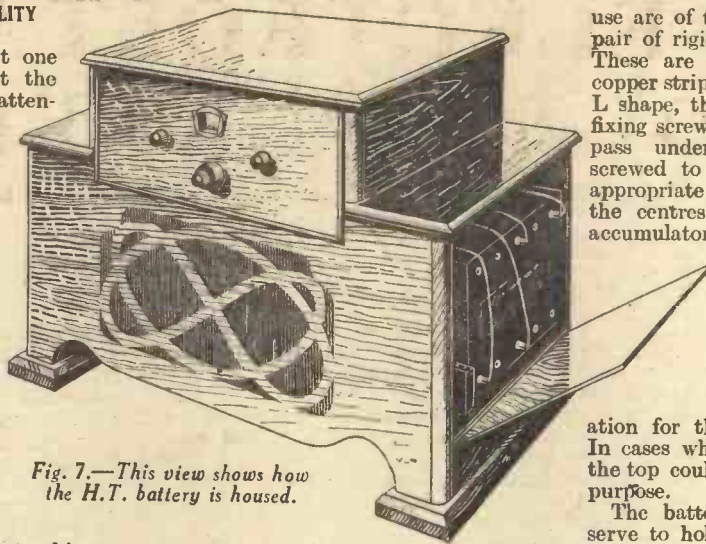
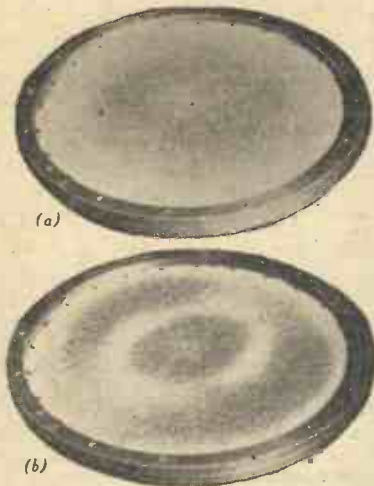
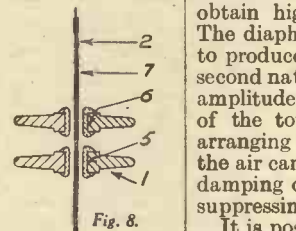

Fig. 7.—This view shows how the H.T. battery is housed.
Fig. 9.—How a stretched diaphragm oscillates: (a) Bass tone (about 100 c.p.s.), (b) Third harmonic (about 250 c.p.s.).
Fig. 8.
To obviate having to do this, provision might be made to house the batteries in wings on either side of the cabinet. How convenient such an arrangement can be is readily discerned by reference to Fig. 7. This method has the added advantage of keeping the accumulator away from the metal work inside the set, but even so it is as well to provide a metal tray for it to stand in.
Fig. 7.—The construction of a bilateral static speaker with bakelite electrodes. (1) Resting electrodes. (2) Diaphragm. (3) Press screws. (4) Centric adjusting screw. (5) Conducting graphite layer on the resting electrode. (6) Insulating layer on the resting electrode. (7) Thin insulating layer on the diaphragm. Fig. 8.—Detail sketch, showing the insulation between the electrodes.
In Fig. 7 the two resting electrodes 1 are pressed together at their border by screws 3, and the diaphragm 2 is squeezed between them. To obtain full response, even of the lowest notes, the diameter of this type has been increased to 40 cms. By ring ribs and radial ribs the resting bakelite electrodes are prevented from warping. The electrode distance can be regulated by the centre screw 4, and is increasing towards the centre. This is to obtain great swing space in the centre for the low notes and minimum electrode distance at the circumference, which is necessary for reproducing the high frequencies. The perforations of the resting electrodes are varied throughout the whole area. There are very few perforations in the centre and at two-thirds of the total diameter of the diaphragm, and this is to obtain high air-damping at these points. The diaphragm, although very light, tends to produce resonance points at its first and second natural frequency, having maximum amplitudes at the centre and at two-thirds of the total diameter (see Fig. 9). By arranging fewer perforations at these points the air cannot escape, and causes additional damping of these diaphragm portions, thus suppressing the resonance effects.